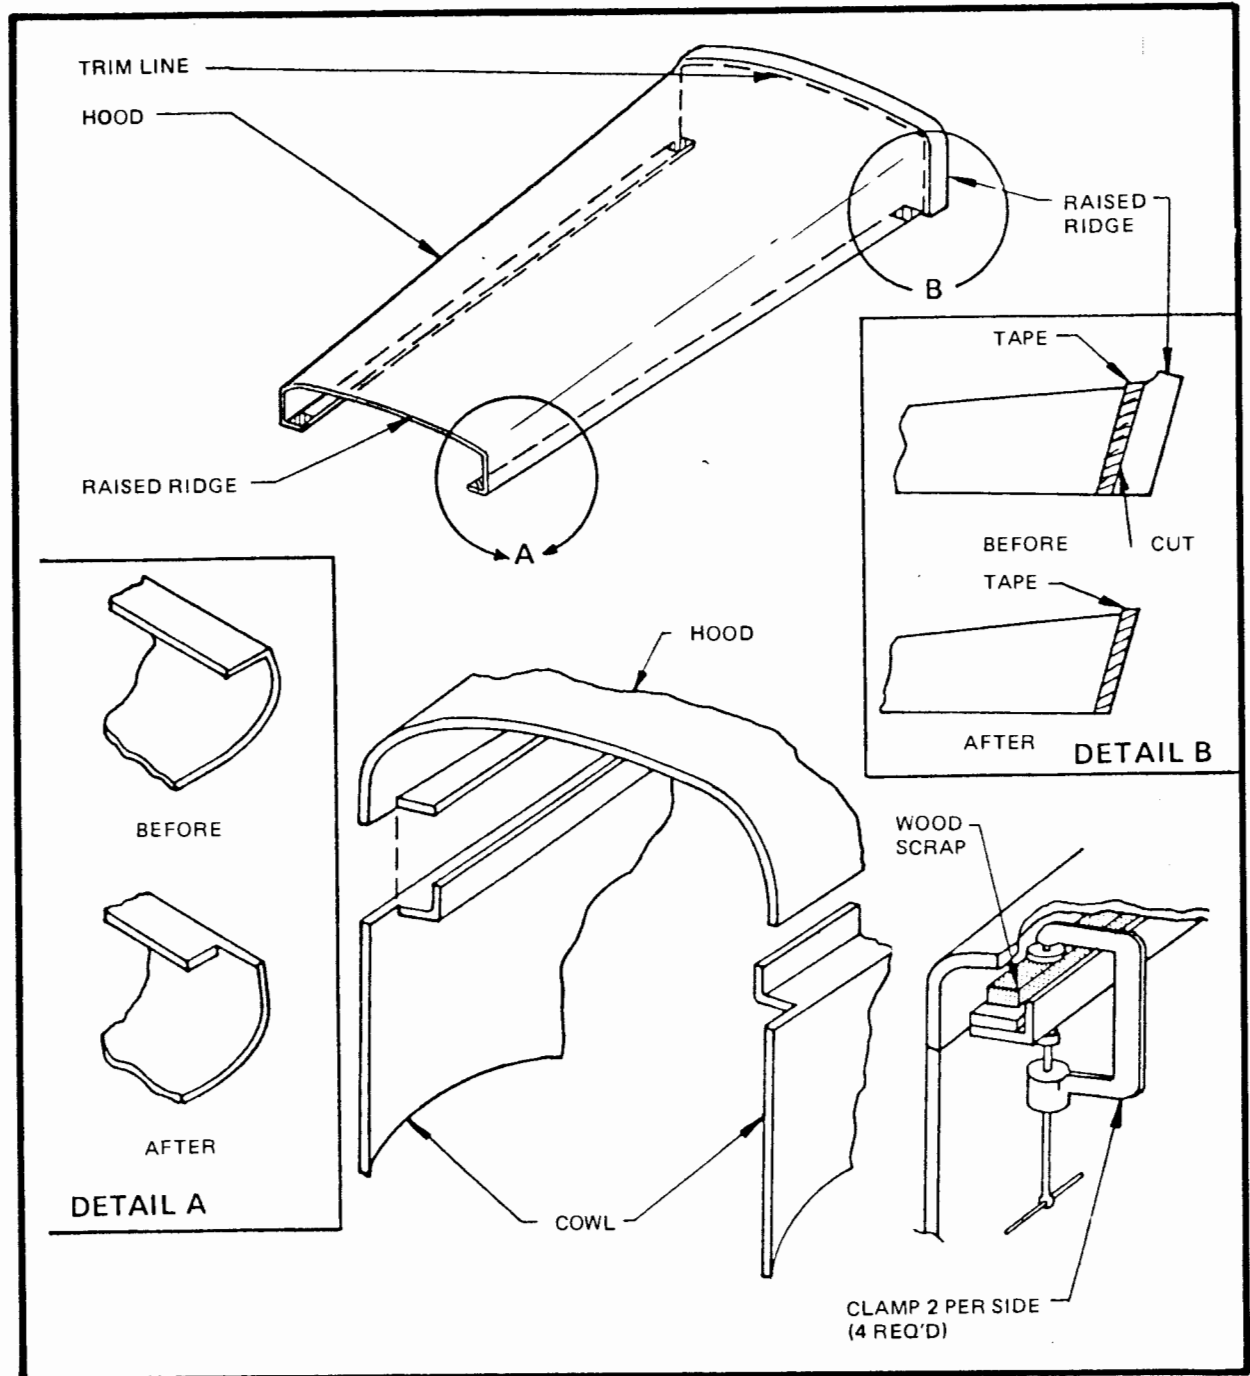

Figure 44
- Trim as per diagram. (Figure 44) The trim line is just inside the raised ridge on the rear of the hood. Trim the inner lip as shown.